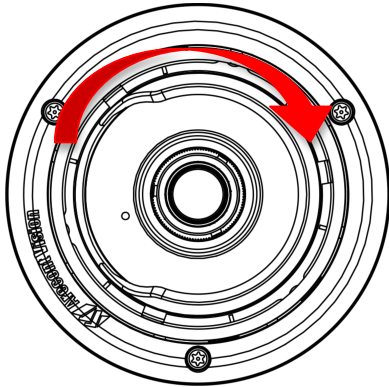

Figure 8: Attach Trim Ring to the Flush Mount Adapter clockwise
6. Attach the Trim Ring to the Flush Mount Adapter by rotating clockwise as shown in Figure 8.